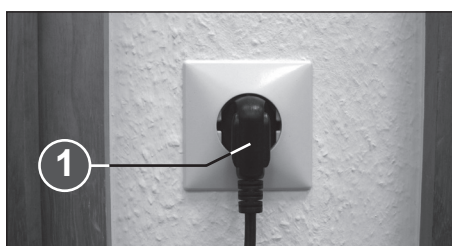

Fig. 2
- Attach the Power Cord to the Power Connection on the machine and plug into an AC outlet (1) (Fig. 2) (For information on the right fuse for the plug see "TECHNICAL DATA").
- 1 = Mains plug (Fig. 2)**